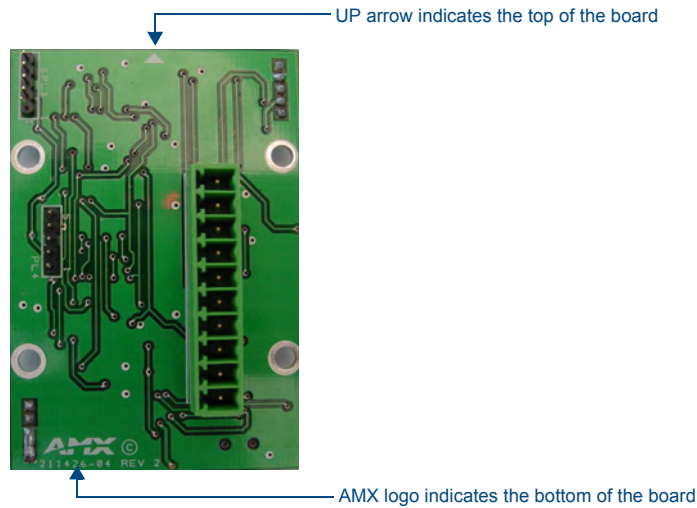

FIG. 6 Orientation marks on the circuit boards
The bottom is indicated by the AMX logo (FIG. 6).
- Be certain that the circuit boards are oriented correctly (see FIG. 6)